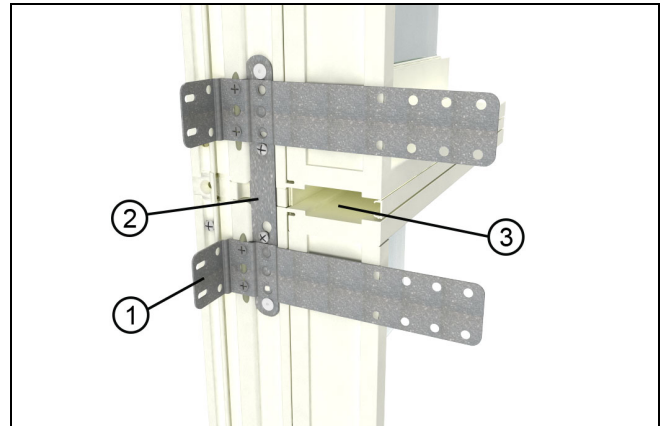
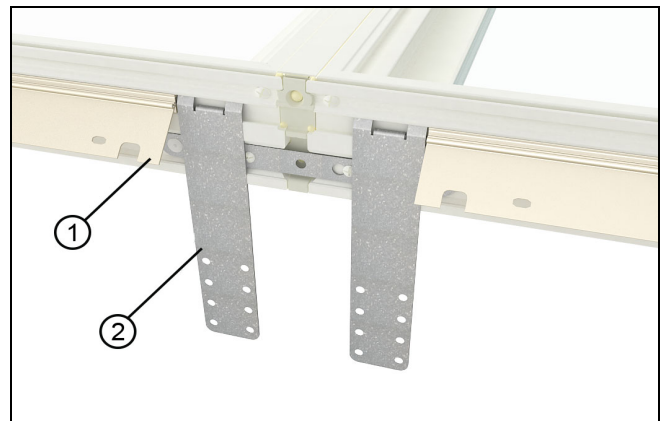

Figure 11
Figure 12
6. For installing a factory mulled unit, apply 90-degree bent structural brackets 1 1/8" from the mullion on both sides of all jamb and head jamb mullion joints. This applies to nail fin or structural bracket installation. See Figure 11. For sill mullion joints, slide flat sill structural brackets into sill T-slot and position one on either side of each mullion joint. If mulled assembly has nailing fin, remove the nailing fin at the sill prior to sliding brackets on. Cut sill nail fin at each mullion joint location and shorten the ends by 3"-3.5" near each mullion to allow for the brackets. Slide brackets and nail fin pieces into the sill T-slot. See Figure 12.